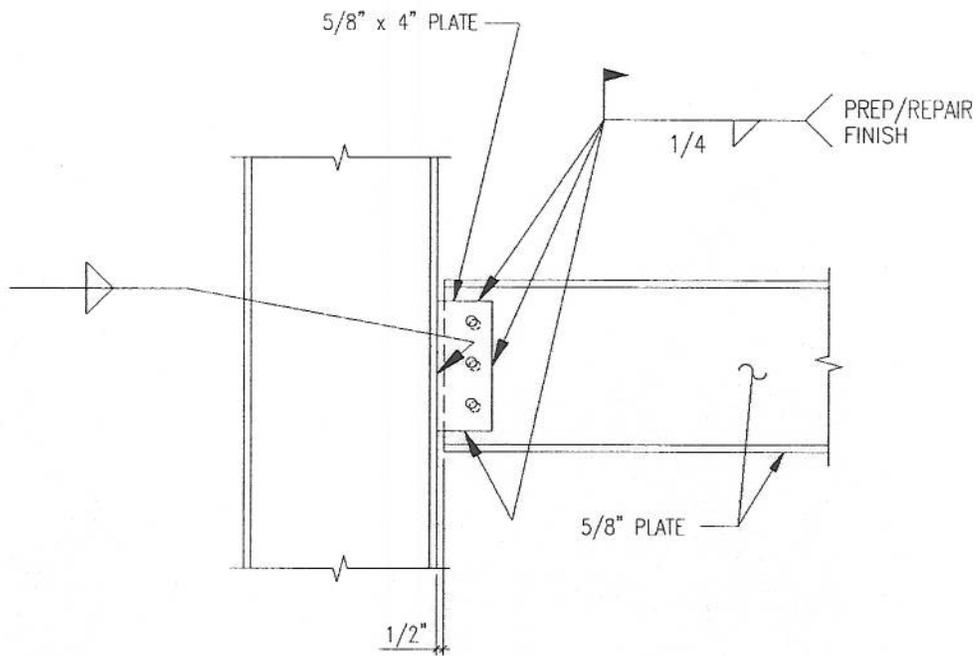

FIGURE 9
4. The contractor has submitted a field change due to misaligned bolt holes as shown in Figure 9. Assume $e_x = 3.00"$. What is the **maximum** beam end reaction considering the capacity of the field weld only? (Use AISC tables for eccentric loads on weld groups). (7 points)